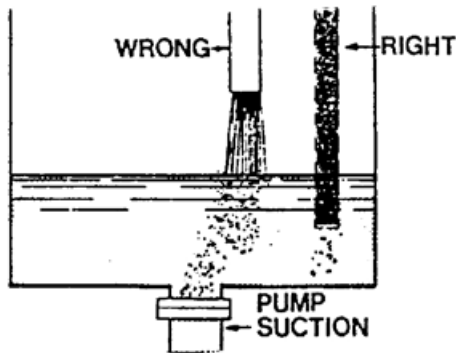

Figure 38
- Low level in supply source (Figure 38)